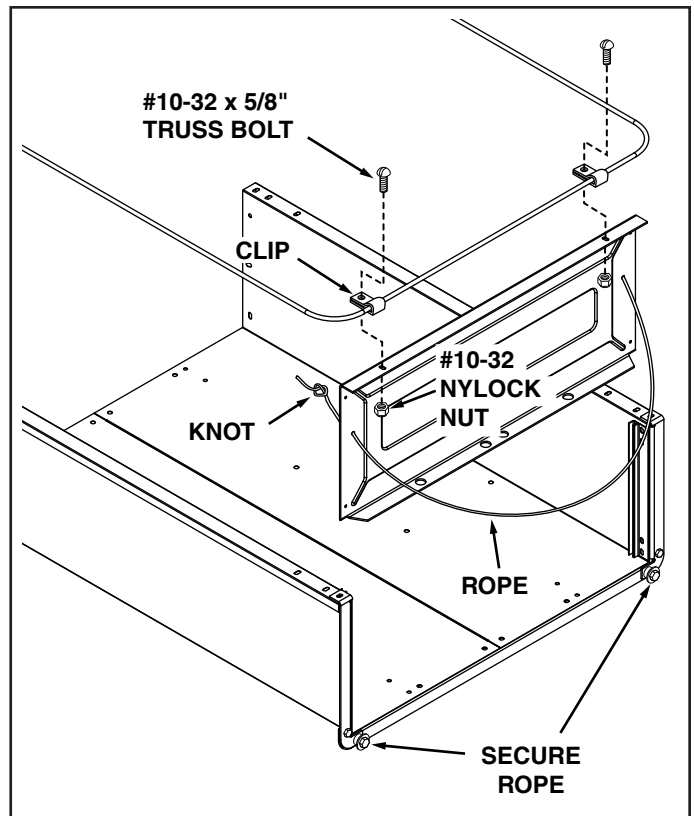

FIGURE 28
13. Slide each end of the rope through the holes in the tailgate shown in figure 28.
14. Tie a knot in the end of each side of the rope to secure the rope in place. Keep knot loose. See figure 28.
16. Attach clips to 3rd lower support rod and fasten them to the tailgate using two #10 x 5/8" truss head bolts and #10 nuts. See figure 28.
18. Secure tailgate rope around the bolts shown in figure 28. If rope does not keep tailgate held down or rope is too short to secure around bolts, move the knot up the end of the rope to loosen or down to tighten. Once knot is in desired location, tighten the knot to secure it in place.